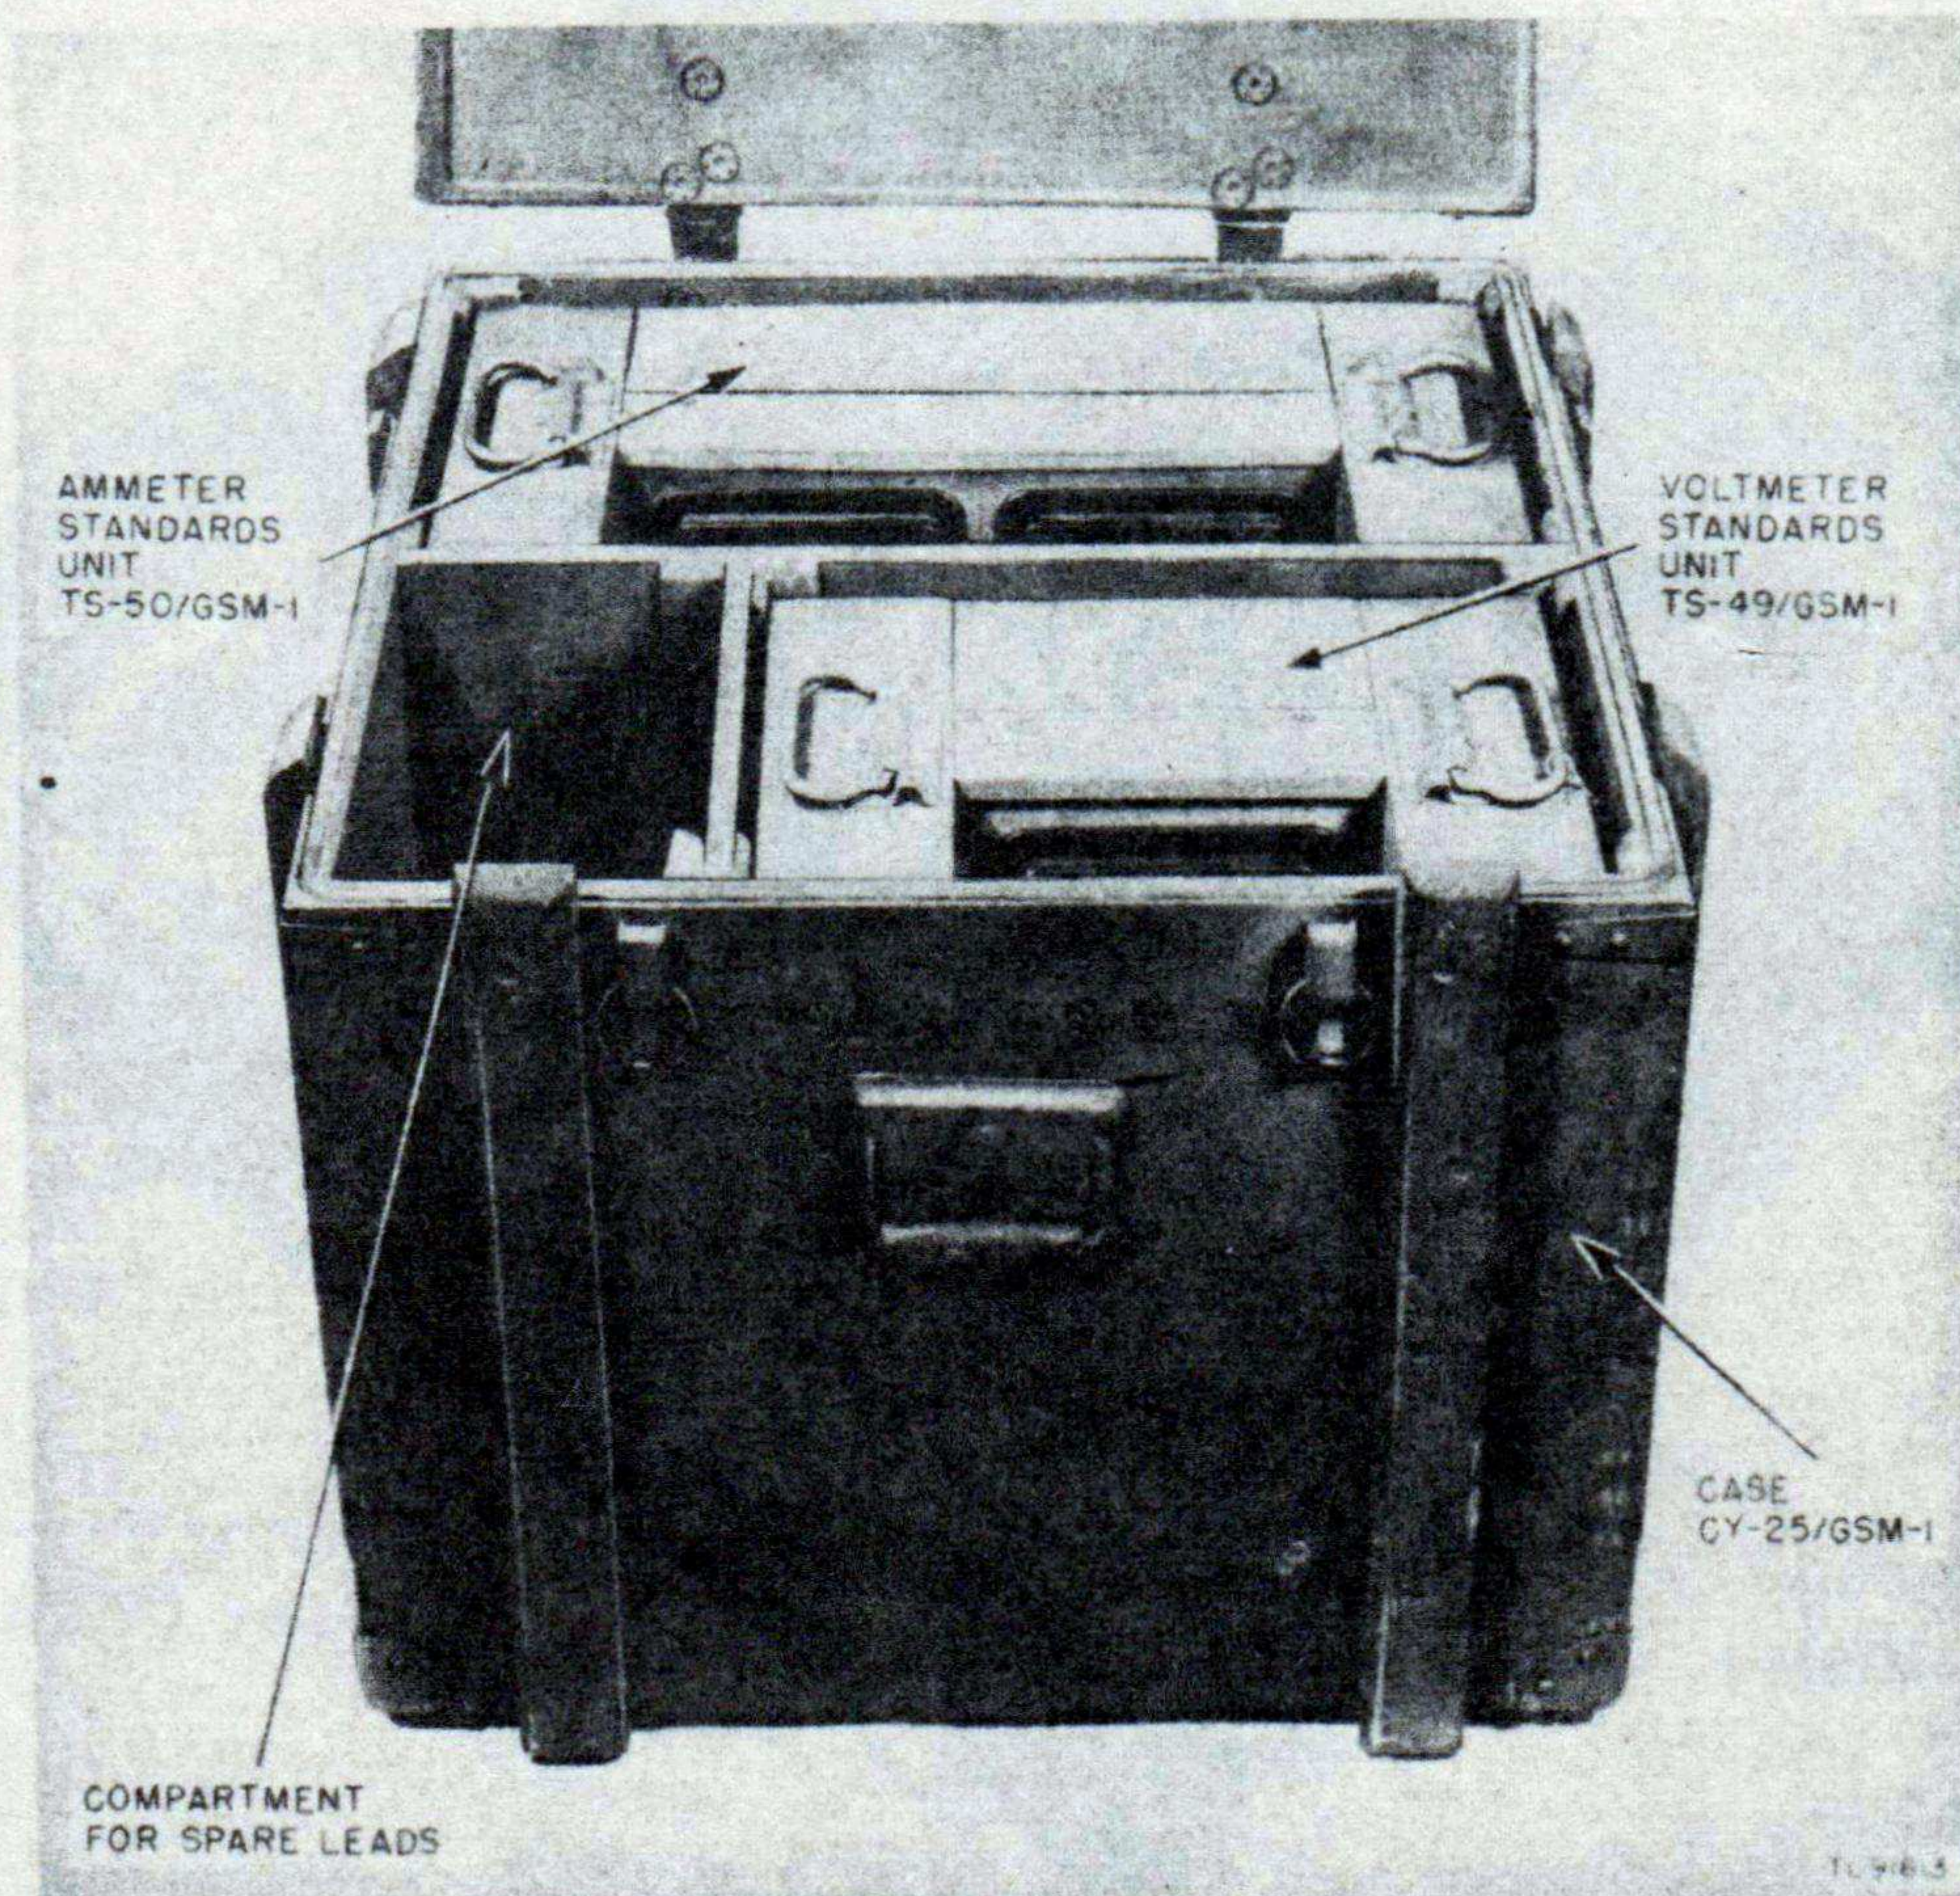

Figure 13. Case CY-25/GSM-1, packed.
b. Put Voltmeter Standards Unit TS-49/GSM-1, Ammeter Standards Unit TS-50/GSM-1, their connected cables and plugs, and spare leads into Case CY-25/GSM-1. The way in which these components are placed in Case CY-25/GSM-1 is illustrated in figure 13.